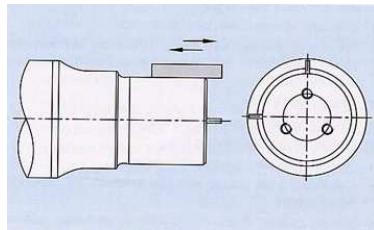

Fig. 8.0 Use of straight edge for checking journal
2. Check the axle journal for waviness along its length with the help of a high precision straight edge smeared with blue. Move the surface place forward and backward in axial direction several times to obtain the impression of blue. Repeat this procedure at a plane 90° apart on the same journal. (See Fig 8.0). If impression observed is continuous unbroken line, journal is even and suitable for use.